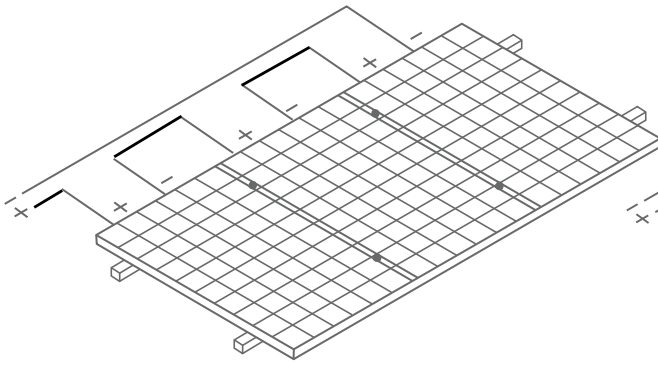

Figure 5 Connection in Series
- It is not allowed to use the Modules in different models in the same solar photovoltaic system. When the Modules are connected in series, the voltage of every string shall not be higher than the maximum voltage of the system (as shown in Figure 5). Reference equation of the maximum number of the Modules in serial connection: maximum system voltage of the module/ (1.25\* open-circuit voltage).